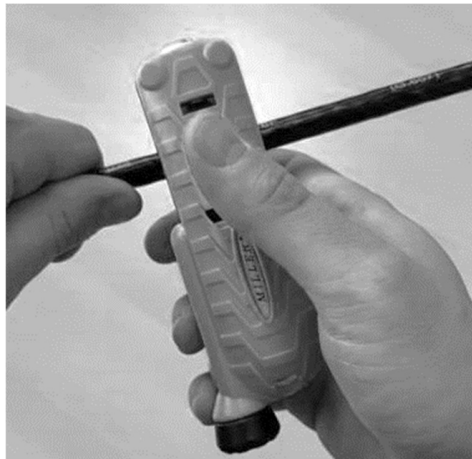

Figure 17 . Ring cut the cable sheath
5.2 Use the Miller MB02 to ring cut around the cable at one of the measured marks. Lightly score the cable sheath rather than cut all the way through (Figure 17).